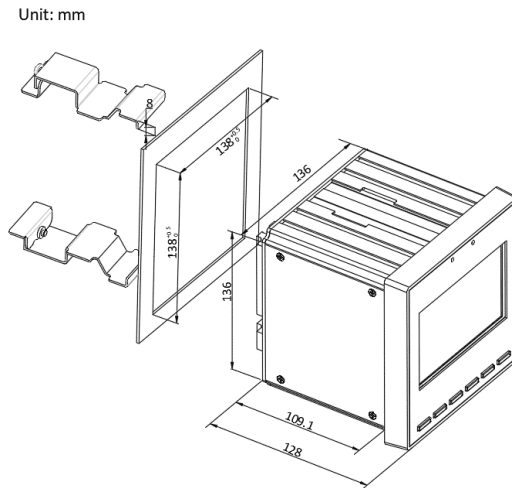

Figure 2-3 Installation
- Fit the meter through a 138mm x 138mm cutout as shown in **Figure 2-3**